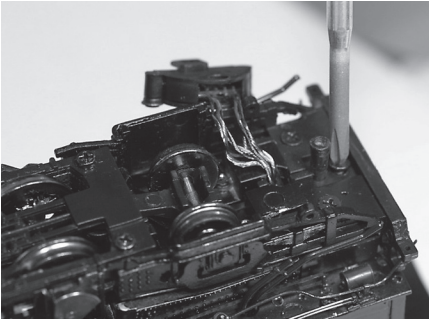

Figure 9 - Remove the screw that attaches the rear chassis to the cab.
2. Move the drawbar aside. Just behind the drawbar support pin you will see a small Phillips head screw that attaches the rear chassis to cab. Remove this screw (Figure 9).